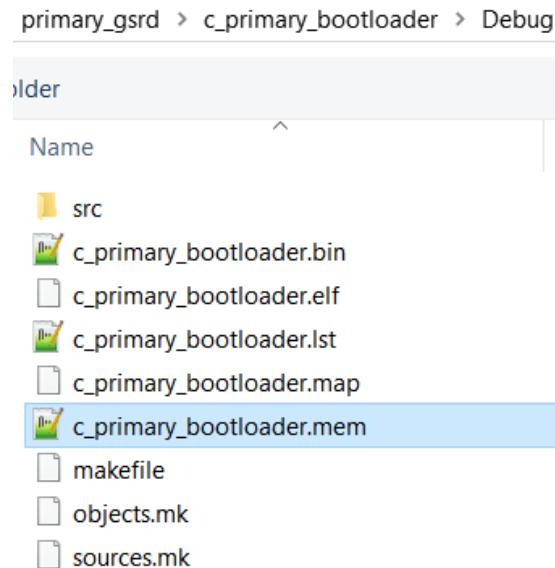

Figure 8.43. Initialize System Memory with `c_primary_bootloader.mem`
- Click on **Initialization File's Value** area with three dots to locate the generated **c_primary_bootloader.mem** Bootloader file as shown in Figure 8.43.
7. Select the `c_primary_bootloader.mem` file created as shown in Figure 8.43.